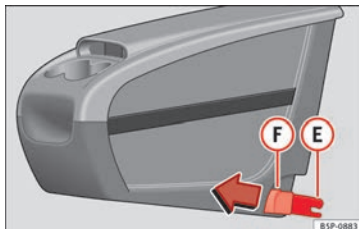
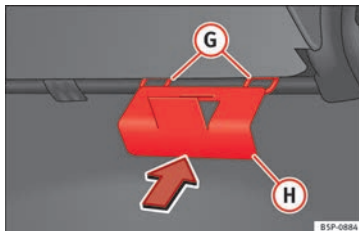

Fig. 93 Mobile storage compartment. Mounting.
Fig. 94 Mobile storage compartment mounting plate.
- Fit the mobile storage compartment mounting plate **H** » **Fig. 94** from the inside of the vehicle, through the rear part of the seat. It should be fitted between the backrest and the seat, in the central seat area.
- Set both mounting pieces together **E** » **Fig. 93**, with both mounting rings **G** » **Fig. 94** and press hard until both the clips completely connect with the rings.
- Pull each of the buttons » **Fig. 93** **F** on the clips (red buttons) forwards, until they snap out of place.